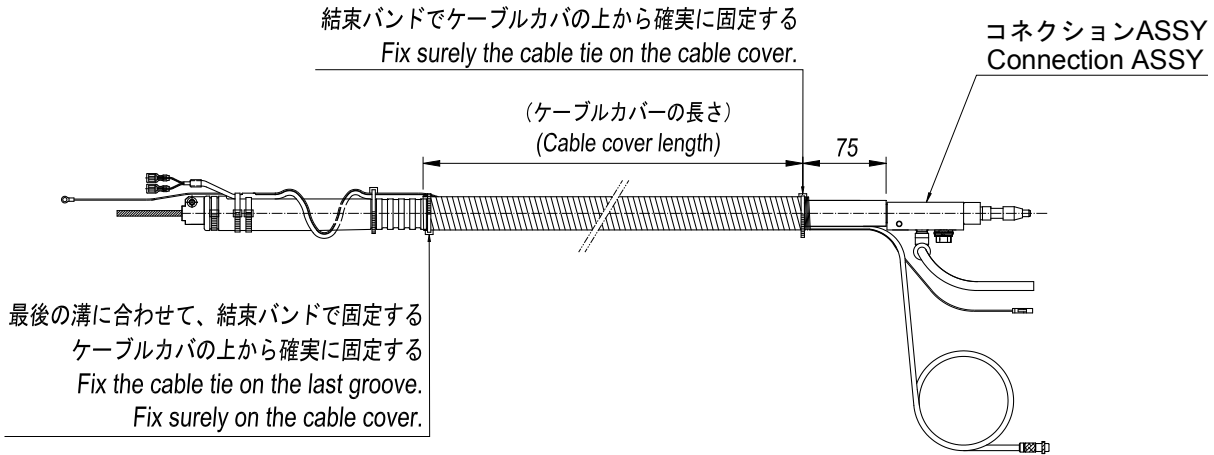
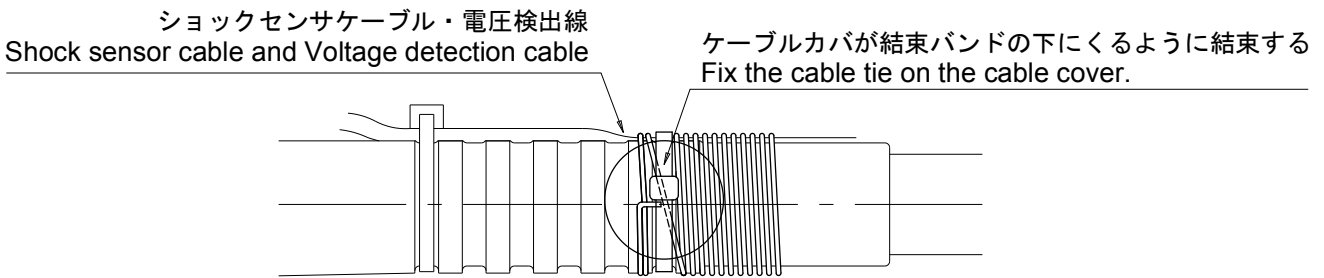

Fig 4.10 Installation procedure (2)
Fig 4.11 Detail of cable cover fixation part
- (2) As shown in Fig. 4.10, pass the cable over the coaxial power cable and fix it with the cable tie. At this time, set the shock sensor side to the groove of the rubber sleeve and fix with the cable tie. Set the feeder side to the position approximately 75mm from the end and fix with the cable tie. In addition, refer to Fig. 4.11 and securely fix the cable cover with the cable tie. Insert the cable cover and install the connection ASSY.